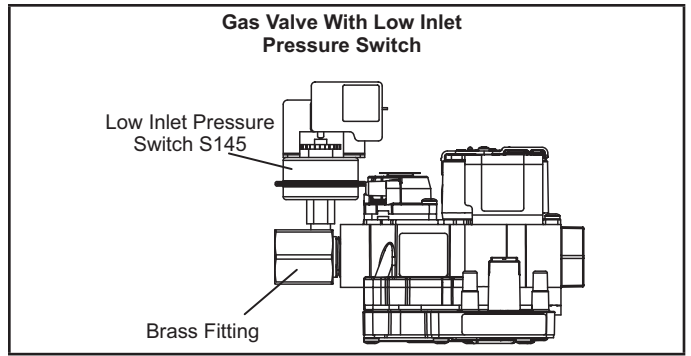

FIGURE 3
- 11 - Thread provided fitting to gas valve inlet until hand tight. Using properly sized wrench, tighten fitting 2 to 3 full turns being careful to position the side port to allow clearance for the pressure switch and harness. See "FIGURE 3" and 4.
NOTE - Some installations may require the S145 pressure switch and fitting assembly to be positioned differently than shown in "FIGURE 3" and 4..